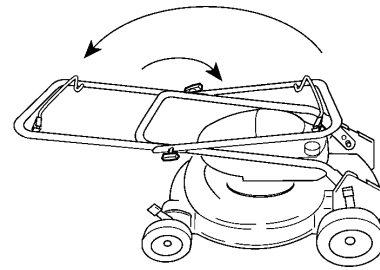

Figure 32
2. Rotate the handle toward the front of mower (Fig. 32).
3. Loosen the knobs securing the top handle section to bottom section and fold the top handle section back toward the rear of the mower into the storage position (Fig. 32).
**Note:** When folding the handle, do not allow the cables to get pinched, crimped, or caught on the handle knobs. Fold the handle only in the direction illustrated (Fig. 32).